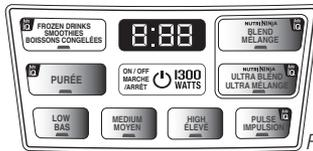

Fig. 1
- 3 Align and lower the pitcher onto the motor base. (Fig. 1) Handle should be aligned slightly to the right of the **LOCK** symbol on the motor base.
NOTE: Nutri Ninja™ | Ninja® Blender Duo™ with Auto-iQ™ Technology can sense which jar is on the motor base. The available function lights will illuminate depending on which jar is placed on the motor base. (Fig. 1)